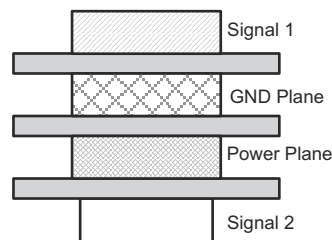

Figure 8-3. Four-Layer Board Stack-Up
8. Due to high frequencies associated with the USB, a printed circuit board with at least four layers is recommended; two signal layers separated by a ground and power layer as shown in Figure 8-3.